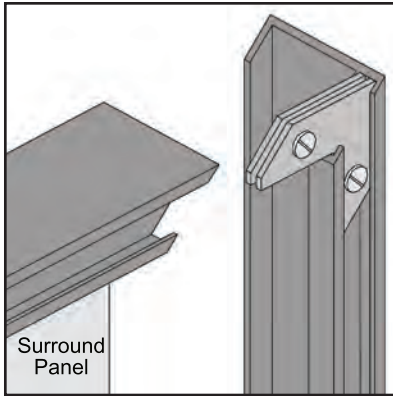
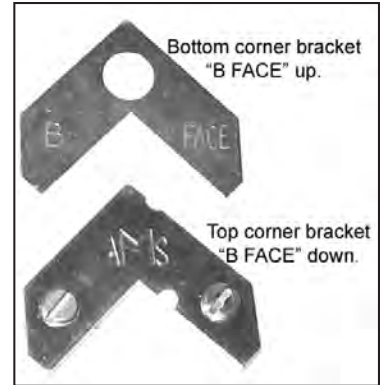

Figure 34: Corner brackets for trim.
Figure 35: Two pieces of corner bracket.
1. Attach one side trim to the top trim, using a corner bracket (see Figure 34) to secure pieces together. There are two (2) main pieces to each corner bracket (see Figure 35). When installing the corner pieces into the trim, the "B FACE" sides must face each other and the screw heads are to face out. With the bracket in place and the top and a side trim snug together, use a flat head screwdriver to turn the two (2) screws in the bracket to tighten it into the trim. Do not over-tighten the corners or the side trim cannot be removed during servicing.